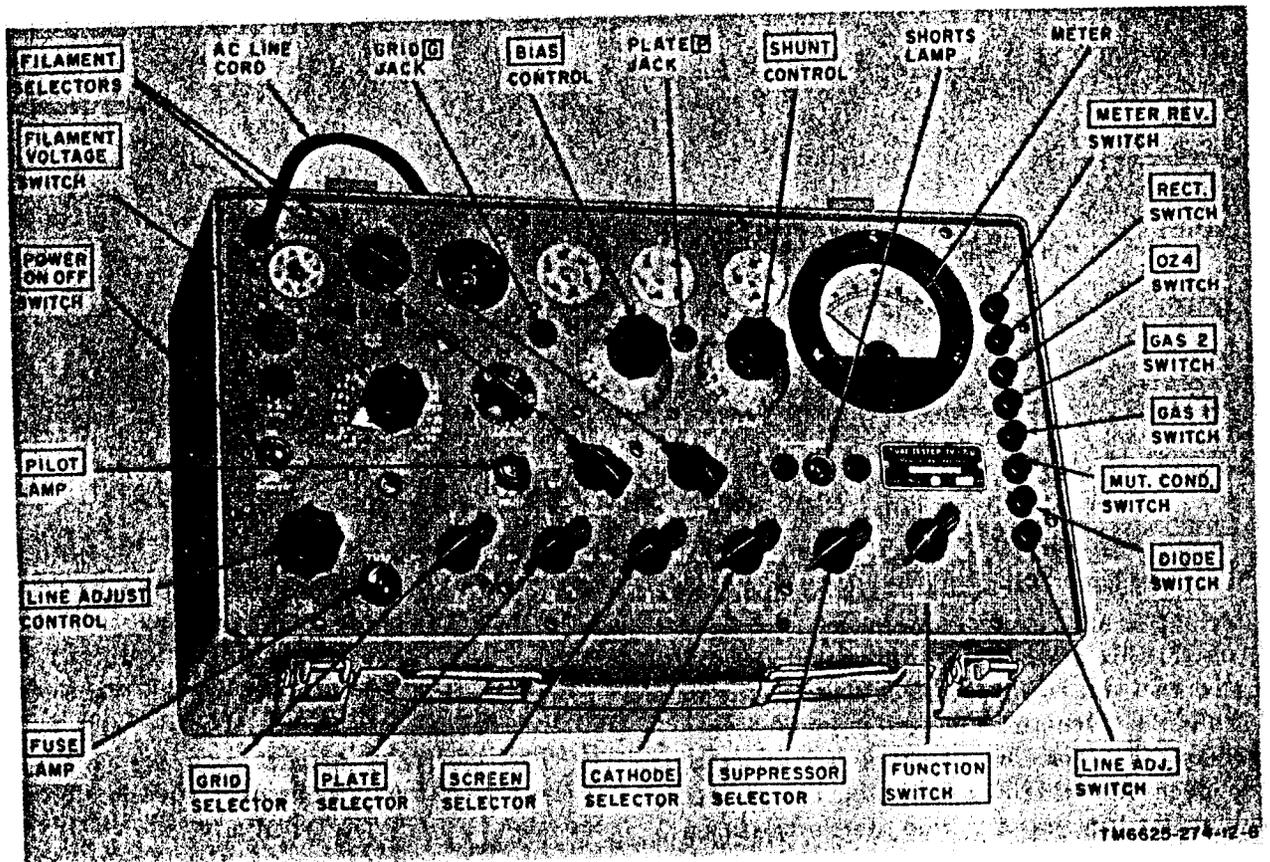

Figure 6. Test Set, Electron Tube TV-7/U, front panel.
Improper setting of the FILAMENT VOLTAGE switch (fig. 6) or incorrect operation of the pushbutton switches may damage the tube under test. Be sure that all the controls and switches are set properly before testing tubes.
- (1) Set the left FILAMENT selector at A, the right FILAMENT selector at P, and the GRID, PLATE, SCREEN, CATHODE, and SUPPRESSOR selectors at 0, 0, 0, 2, and 2, respectively.
- (2) Rotate the FUNCTION SWITCH through the five SHORTS positions. The neon SHORTS lamp (fig. 6) should glow in positions 2 and 3 of the FUNCTION SWITCH to indicate that the short test circuit is functioning properly.